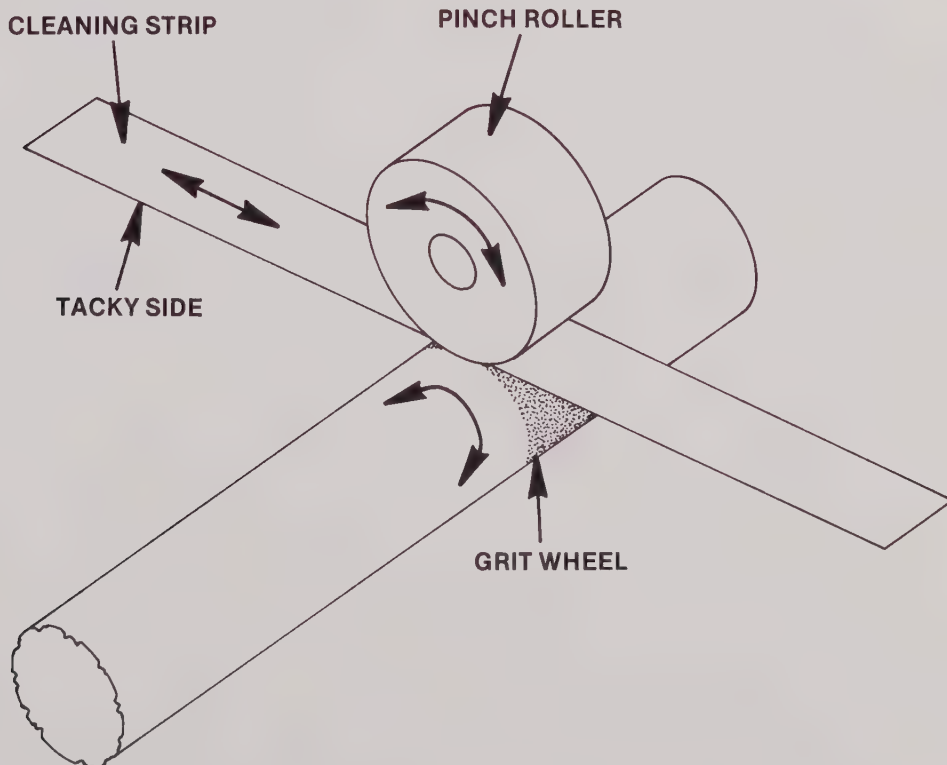

FIGURE 4-2
5. Place the cleaning strip between the pinch roller and the plot drum, with the tacky side of the cleaning strip toward the grit wheel as shown in Figure 4-2.